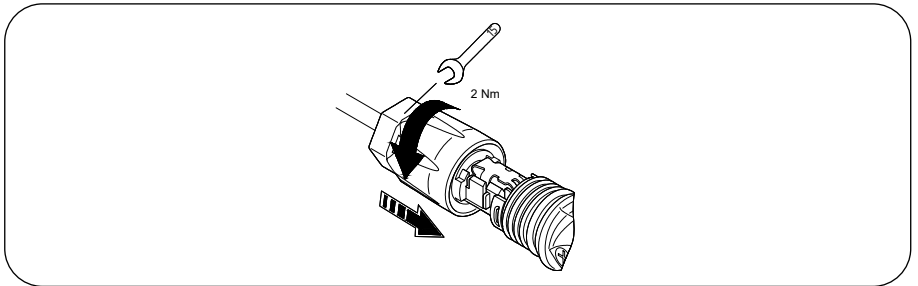

Figura 16
4. Push the insert into the sleeve and tighten the cable gland with 2 Nm (Figura 16).